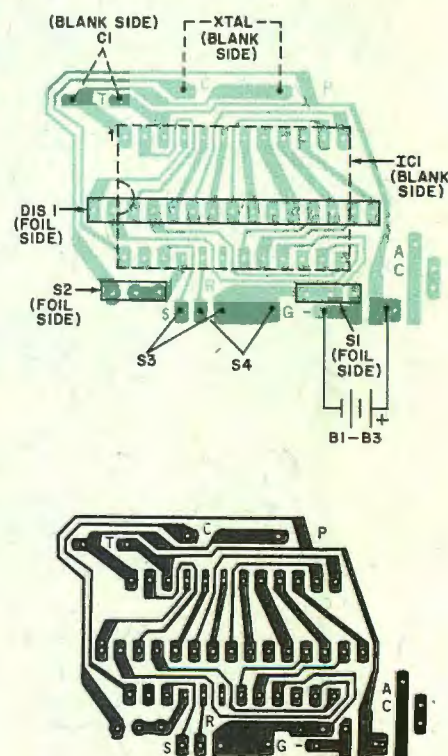
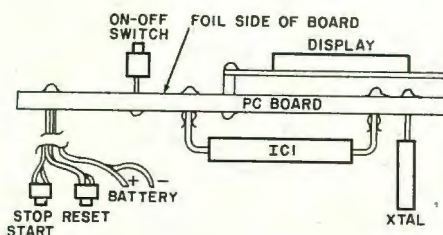

Fig. 2. Etching and drilling and component installation guides.
Fig. 3. Top and bottom of board.
**Construction.** Although any type of construction can be used, to make the sports timer as small as possible, the foil pattern shown in Fig. 2 should be used. Note that components are mounted on both sides of the board as shown in Fig. 3. The IC is mounted on the blank side of the board, preferably using a socket
The LED display is a conventional 2-inch calculator 6-to-9-digit stick with flat red lens. In the prototype, an NSN-66A (National Semiconductor) was used, but a brighter readout can be obtained with an NSA-1188. Other types of readouts can be used if the appropriate jumpers are made from the display pads on the board. The NSN-66A can be mounted on the foil side of the board as shown in Figs. 2 and 3. If the bottom surface of the display stick has exposed bare copper leads, cover it with a layer of masking tape to avoid shorting to the pc foil pattern. Mount the display and switches so that the tops of the switch bodies are flush with the upper surface of the display.
Once the timer operates correctly, it can be checked by listening to WWV or CHU. Place S2 in the SPLIT position and start the timing on the minute signal. Check the time against the signal every few minutes to determine the timer accuracy. If the displayed time is more than it should be, mount a small trimmer capacitor (8 to 40 pF) on the pc board as indicated in Fig. 2. Adjust the capacitor and continue the timing tests until the desired accuracy is obtained.